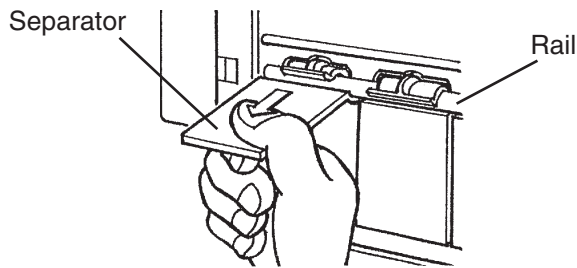

Fig. 38
- 16) Hook each separator onto the rail, then pull it hard towards you until it locks into place. See Fig. 38.